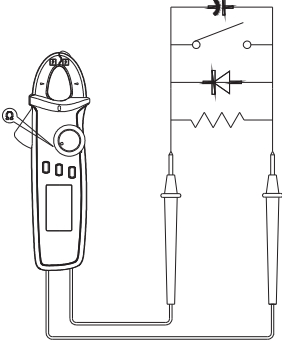

Figure 4
- Connect meter pen in parallel to test piece for measurement (Figure 4)